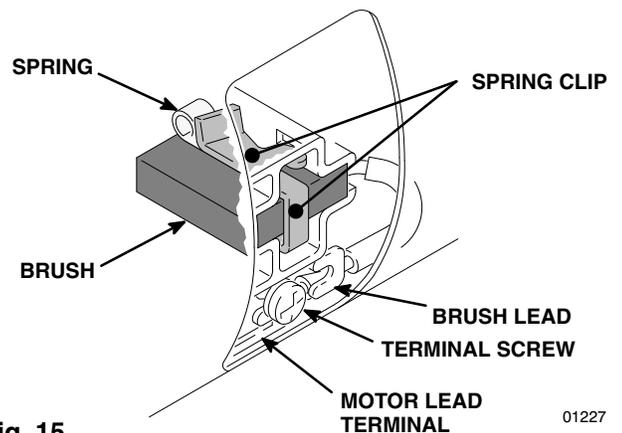

Fig. 15
4. Loosen the brush lead terminal screw. Pull the brush lead away, leaving the motor lead terminal in place. Remove the brush and spring. See Fig. 15.
7. Slide the terminal under the terminal screw washer and tighten the screw. Be sure the motor lead is still connected at the screw. See Fig. 15.